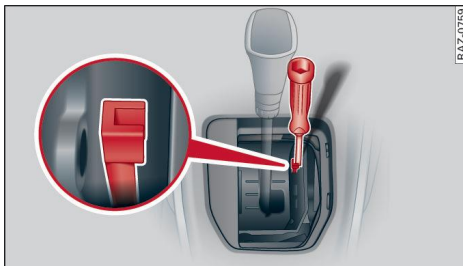

Fig. 89 Manual release mechanism (top right)
- ▶ Carefully lever off the boot with the screwdriver and, at the same time, pull the boot upwards at the crease with your hand until it is released at all four corners ⇒ *page 100, Fig. 89*.